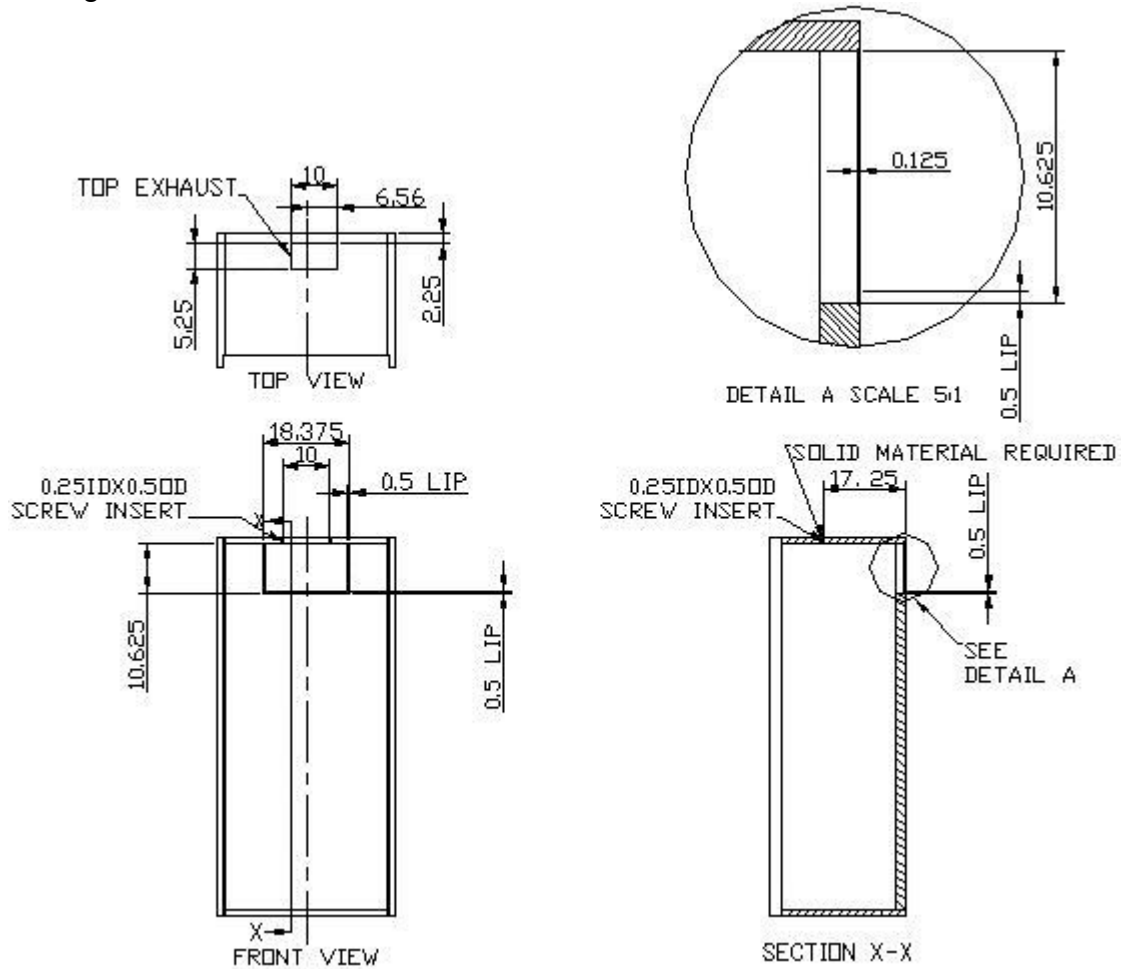

Fig. 2.1 CUTOUT AND HOLE DIMENSIONS
- Cut a rectangular inside opening at the rear of the cabinet with the 1/4” clearance inwards to the width and height of the cooling unit. By not going through, leave 1/2” lip inside at the wall to place the gaskets (see Fig. 2.1 & 2.2).
- If top exhaust installation, cut another rectangular opening at the top of the cabinet to the length and width of the top exhaust (see Fig. 2.1 & 2.3).
- Install 2 pieces of 1/4” ID wood thread inserts at the ceiling (see Fig. 2.1 & 2.4).
- Place the gaskets (1/2” foam tape) on the gasket lips (see Fig. 2.1 & 2.5).
- If top exhaust installation, place another gaskets along the top exhaust at the top of the cooling unit (see Fig. 2.1 & 2.6).